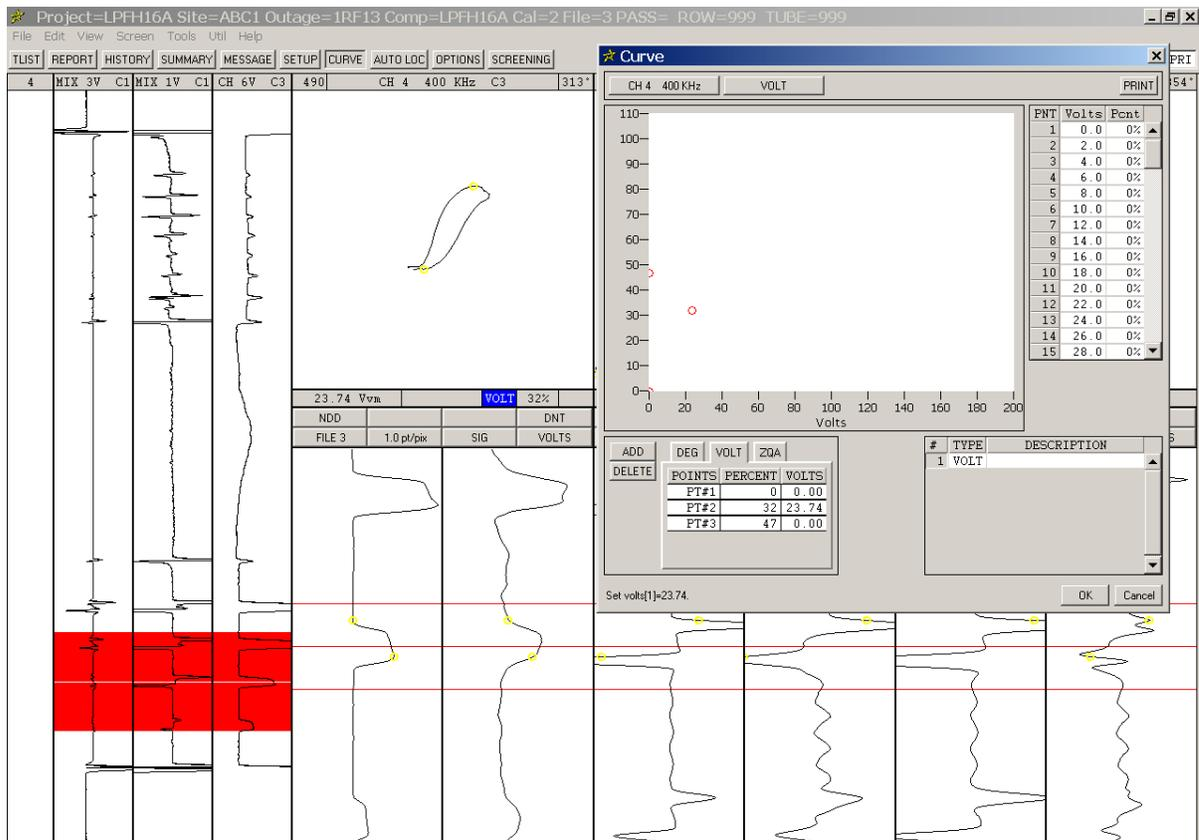

Figure 1-22. Analysis Screen - Curve Dialog - Entering the As-Built Depth and Volts Measurement of a Calibration Flaw
- STEP 24:** Click in the *Volts* field for *PT#2* on the *VOLT* table. The *Vvm* measurement (~23.74) for *CH 4* is automatically entered in the field as shown in Figure 1-22.